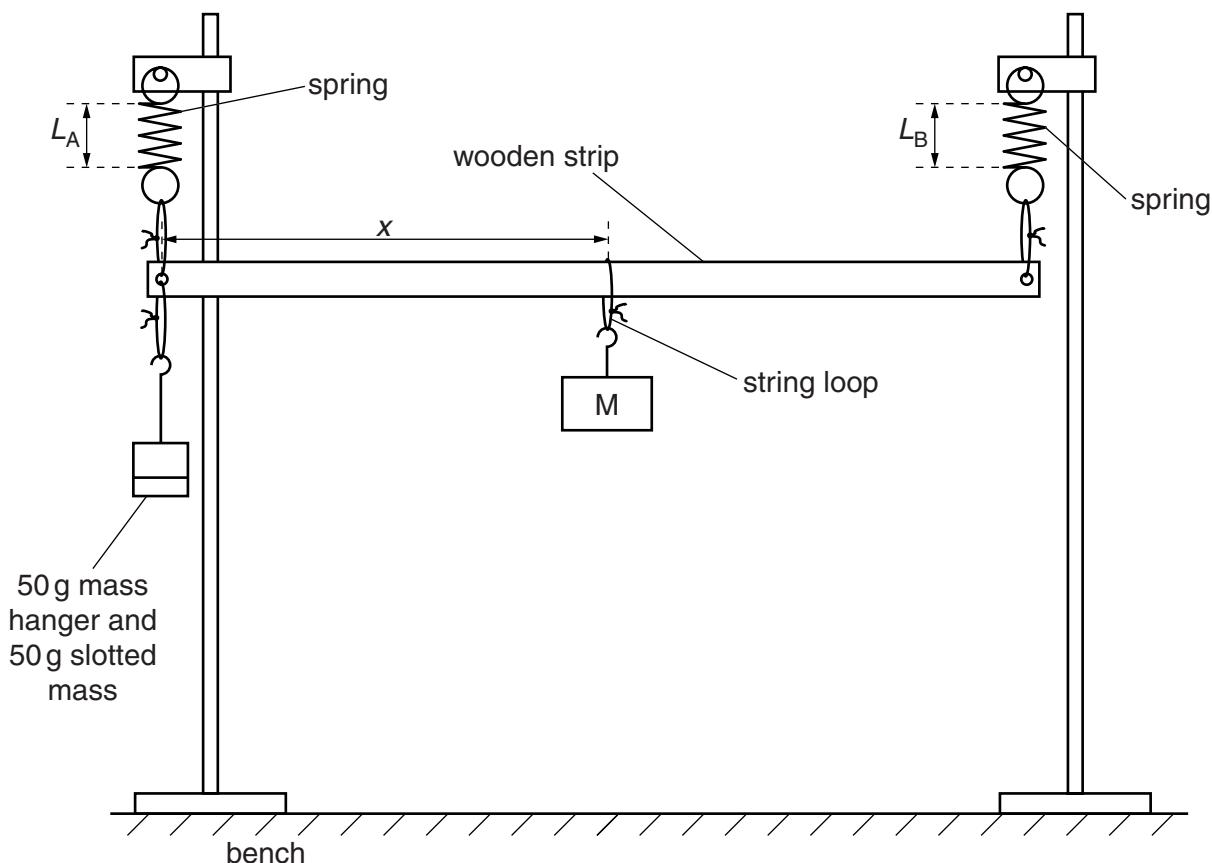

Fig. 1.2
- (b) (i)** Assemble the apparatus as shown in Fig. 1.2, with the mass M near to the middle of the wooden strip.
- (iii)** Measure and record the distance x from the left-hand hole in the wooden strip to the string loop supporting M, as shown in Fig. 1.2.